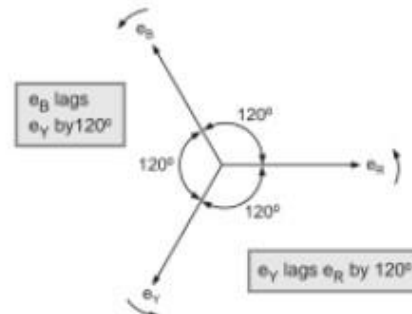

Fig. 1.3.3 Phasor diagram
- The phasor diagram of these voltages can be shown as in the Fig. 1.3.3.